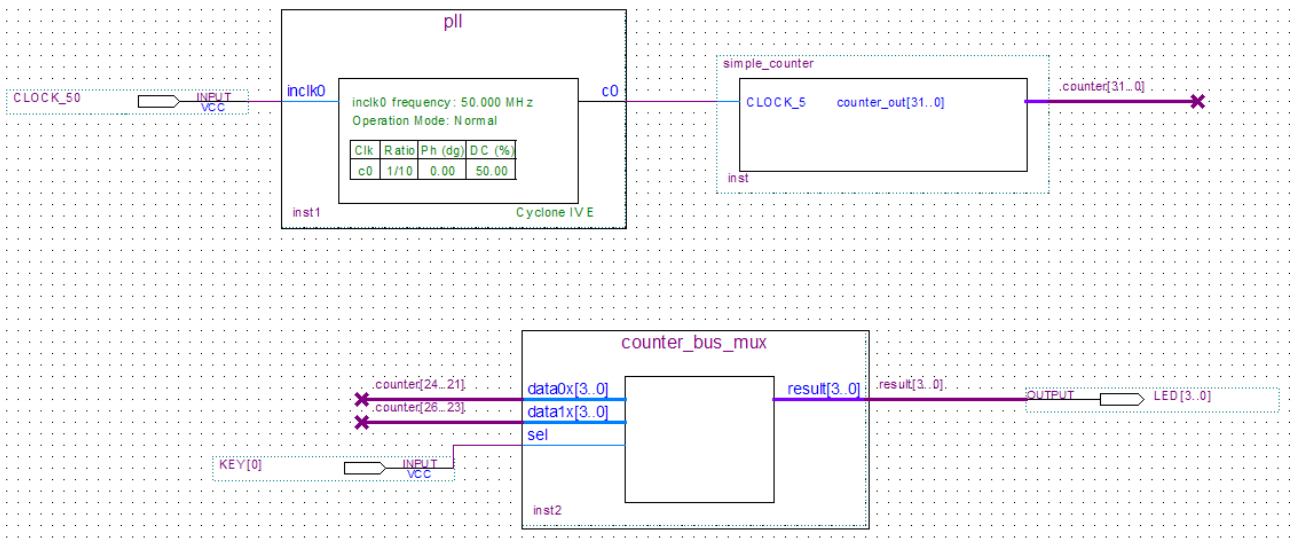

Figure 3-29 Adding the KEY [0] Input Pin
23. Rename the input pin as KEY [0] (see **Figure 3-29**).